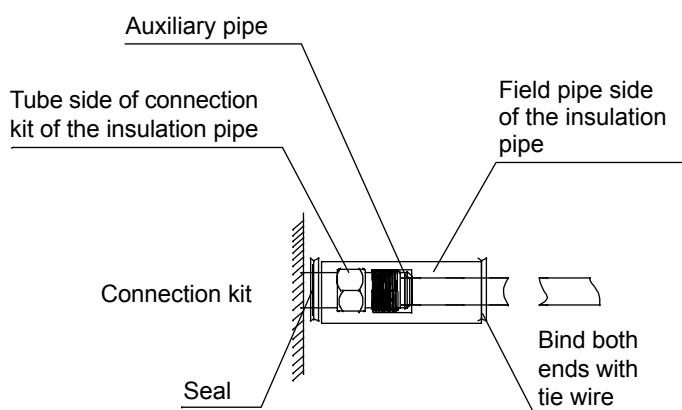

Fig.2
- (1) Please connect it tightly so as to ensure no gas leakage at both ends.
- (2) The retaining clamp shall not be over tight so as to ensure the thickness of the insulation materials.
- (3) Joints of insulation materials (purchased locally) for the upper flare nut connections shall be wrapped upwards.
- (4) Ensure that joints of the insulation materials are installed upwards. (See Fig.2.)